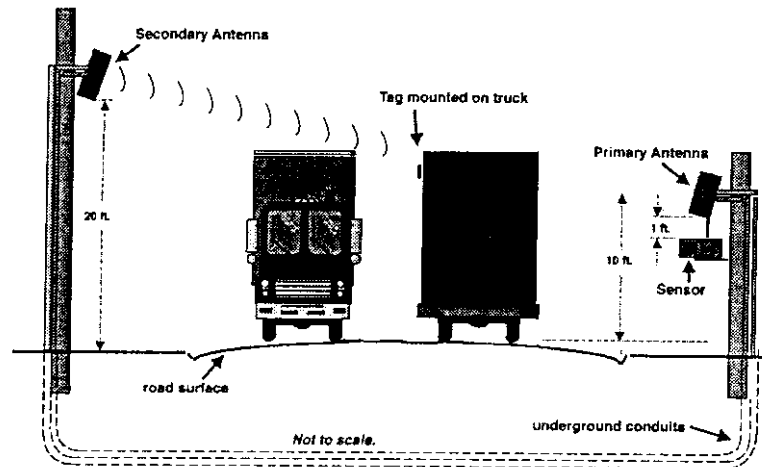

Figure 3-5 Front view of antenna positions for bidirectional lanes
Figure 3-5 shows, when monitoring bi-directional lanes, the configuration alters slightly to accommodate the additional traffic direction. For a bi-directional lane, it is very important to:
- Raise the position of the secondary wakeup antenna to a height of 20 feet so that it can "look over" traffic from the direction it is *not* monitoring, as shown in Figure 3-5.